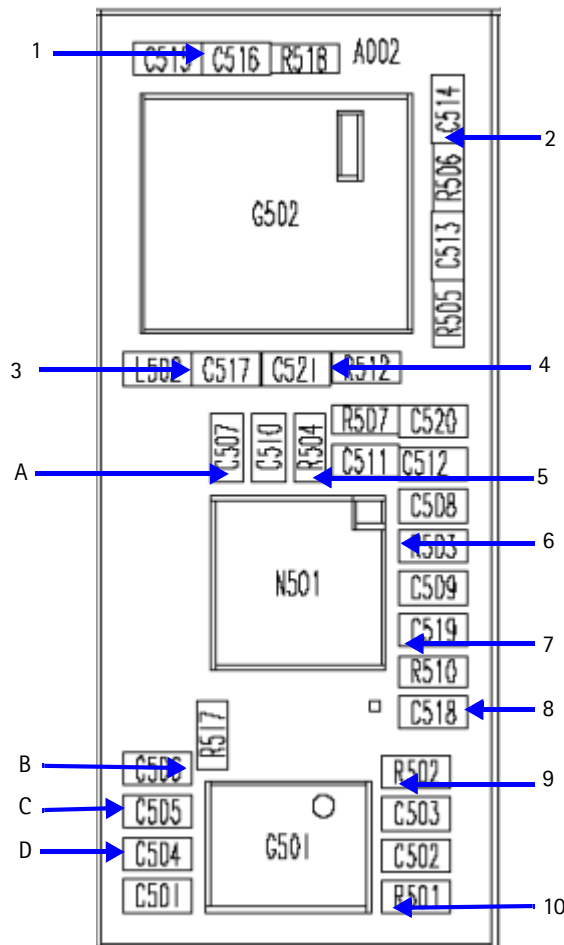

Figure 42: VCTCXO and UHF synthesizer probe points
Figure 42 shows the VCTCXO probe points (alphabetic) and the UHF synthesizer probe points (numeric).
Table 12 shows the values and description for the VCTCXO probe points in Figure 42.
Table 11 shows the values and description for the UHF synthesizer probe points in Figure 42.
3. Measure for nominal UHF LO signal levels using and RF probe. (See Figure 42 on page 49 and Table 12, "UHF Synthesizer Probe Point Values and Descriptions," on page 50.)